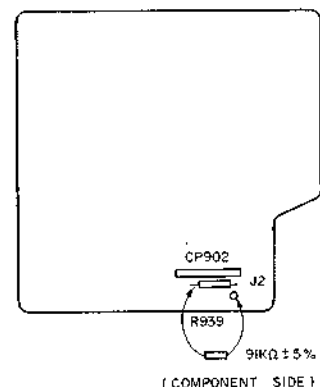

Fig. 4 Power supply board
- 1) Connect J2 with a intermediate point between R939 and terminal 2 - 3 of CP902 by a resistor  $91K\Omega \pm 5\%$ . - Fig. 4